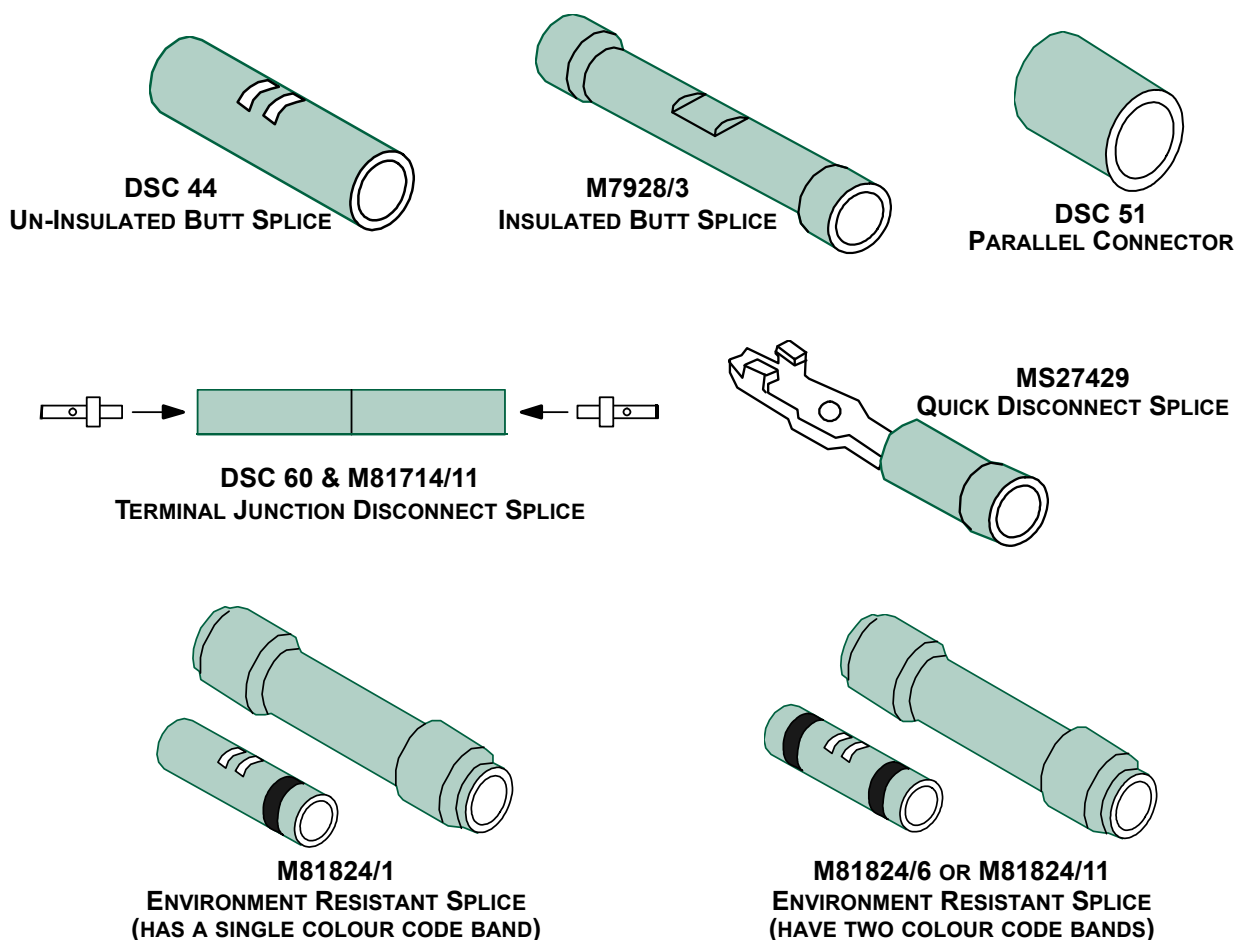

FIGURE 1 - ELECTRICAL SPLICE CONNECTORS
| FIGURE 1 - ELECTRICAL SPLICE CONNECTORS | 6 |
- 4.1.2 Splice connectors as specified on the engineering drawing or wiring list. See Figure 1 for a general description of electrical splice connectors.